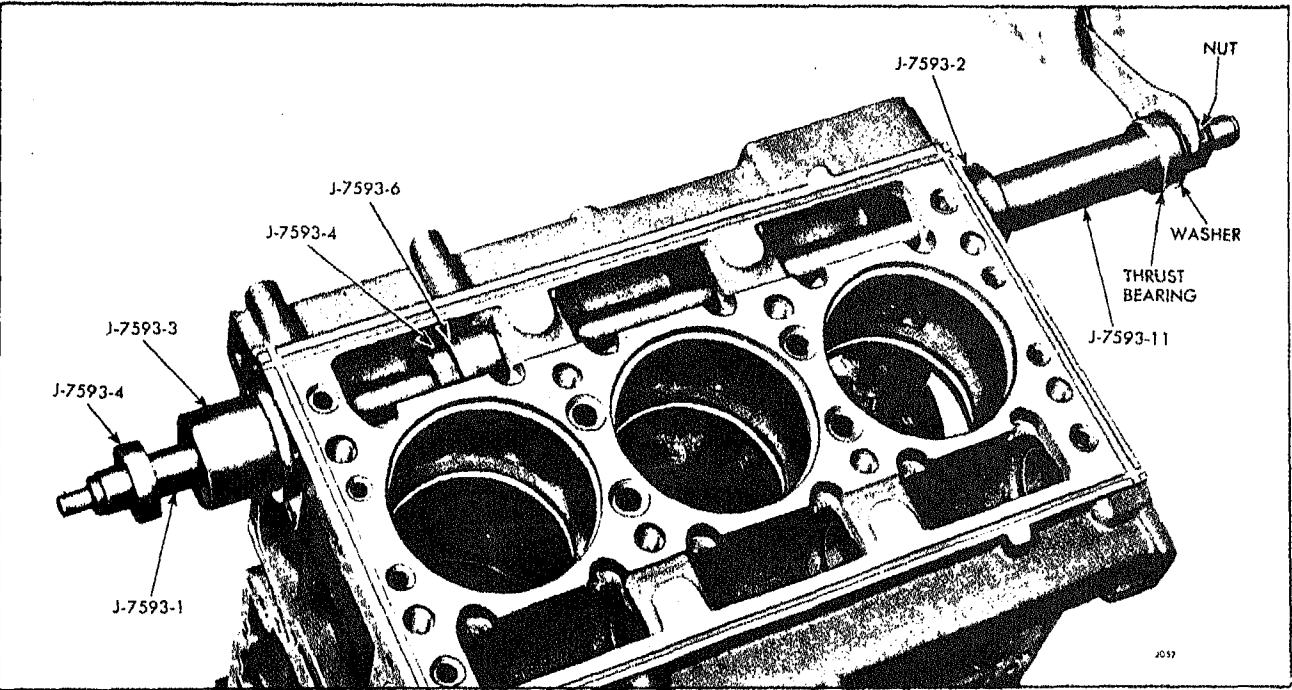

Fig. 4 - Installing Intermediate Camshaft Bearing
1. Insert pilot J 7593-2 in the bore of the block as shown in Fig. 4. Use the small end of the pilot if an
5. Next, place a spacer (if required), thrust washer, plain washer and hex nut over the threaded end of the puller. The short spacer J 7593-11, shown in Fig. 4, is used on the three cylinder (In-Line) and 6V blocks. The long spacer J 7593-10 is used on the two cylinder block.